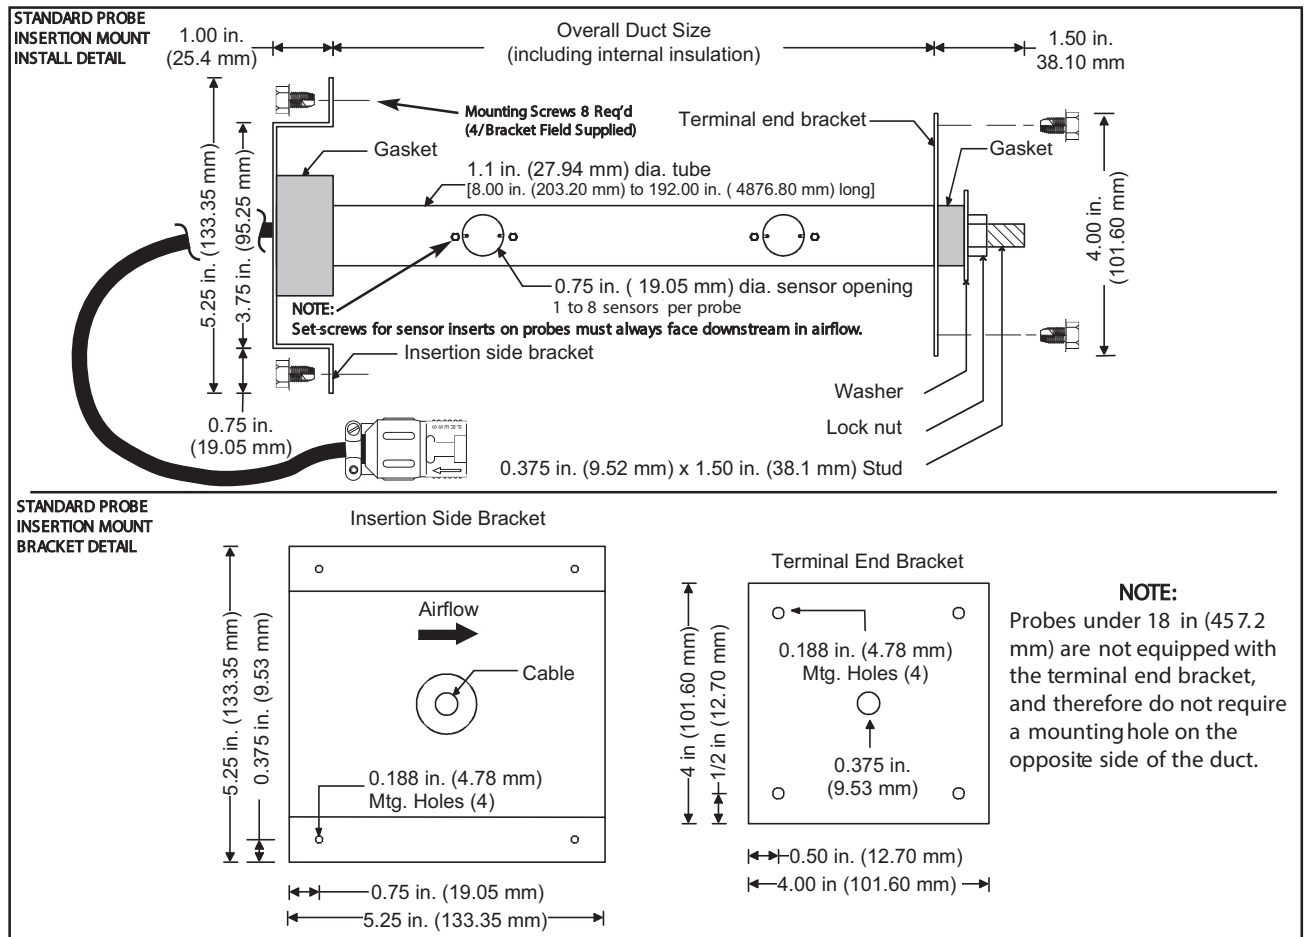
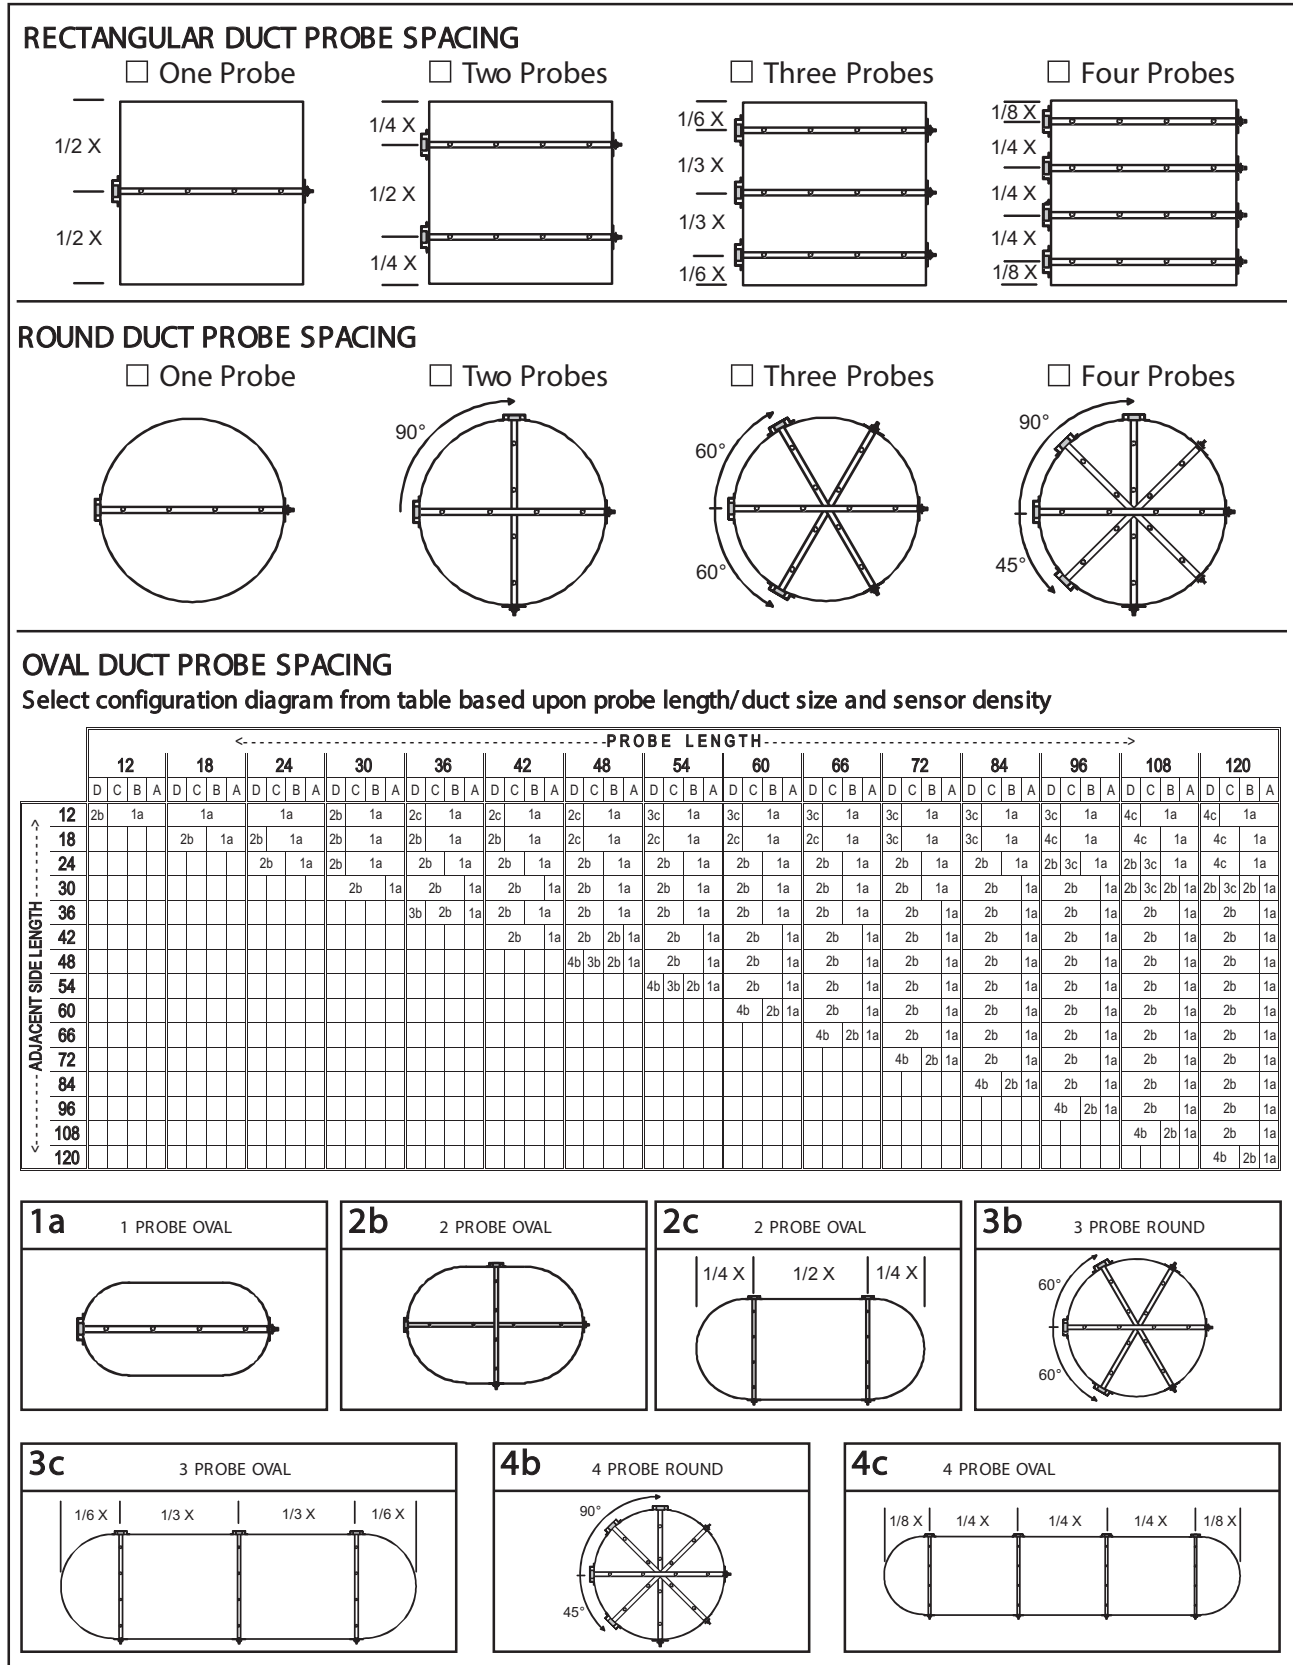

Figure 2. Standard Internal Mount Probe Mechanical Detail
Figure 3. Internal Mount Probe Spacing/Configuration
Ensure that adequate installation/service clearance exists at the installation site to permit installation of the probe into the duct/plenum, and that the cable length for the probes is sufficient to reach the planned transmitter installation. Refer to the mechanical details of Figure 2.
On applications where multiple probes are to be installed at a single measurement location, install probes in accordance with Figure 3 (Internal Mount Probe Spacing/Configuration). In addition, when traverse data is desired (Gold Series GP1 probes only), place the lowest numbered probe at the top of the duct for horizontal mounting. For vertical mounting, place the lowest numbered probe on the left side of duct when viewed from the upstream side of the mounting location, with cables exiting on the higher side to prevent any potential moisture from accumulating on the heated sensors.
Figure 2 provides Standard Internal Mount probe installation details. Probes are installed from inside of the duct or plenum using the included brackets. Internal insulation that may interfere with mounting should be temporarily removed to permit installation. Internal mount probes are manufactured shorter to permit 0.75 in (19 mm) adjustment and allow for installation clearance. Install each probe as follows using the convenient check boxes at each step.
1.  Each probe package is factory labeled for the specific location and duct size for which it is designed. Orders for locations requiring multiple probes at a specific location are typically banded and packaged together. Determine the specific duct location for the probe(s) as indicated on the engineer's plans showing where the airflow measuring station is to be located. Refer to Figure 3 for probe spacing and orientation.
3.  The first dimension of the probe size indicates the length of the probe. The second dimension indicates the specific duct internal mounting inside dimension 'X' (including internal insulation). On ducts with internal insulation that cannot be removed, adjust 'X' to equal the internal mounting inside dimension, minus two times the thickness of the insulation. Refer to Figure 2 and verify that the probe is the correct size for the application duct size. Mark a point on the center of the inside of the duct at 'X'. Draw a line on the inside of the duct at this point that is perpendicular to the edge of the duct. This line will be used to locate the position of the probe mounting brackets. The probe quantity for the measurement site determines the probe installation configuration/orientation as shown in Figure 3.
4.  Using the applicable Rectangular Duct Probe mechanical and spacing details of Figures 2 and 3, mark the location for the cable exit end of each probe bracket at the location line(s) drawn in step 3.
6.  Mark and draw a line around the inside circumference of the duct at the point where the probe brackets are to be installed. The number of probes for this specific measurement site determines the probe installation configuration and orientation as shown in Figure 3. Applications with multiple probes must be staggered 1.5 to 2 in (38.1 to 50.8 mm) from each other as shown in Round Duct Probe Spacing detail of Figure 4 to prevent probes from intersecting at the center of the duct.
7.  Using the Round Duct Probe Spacing detail of Figure 3, locate and mark the individual probe mounting location(s) on the circumference line drawn in step 6.
9.  Mark and draw a line around the inside circumference of the duct at the point where the probes are to be installed. For oval duct applications, orientation is as shown in the Oval Duct Probe Spacing table and detail application illustrations of Figure 3. Configuration '2b', '3b' and '4b' probes must be staggered 1.5 to 2 in (38.1 to 50.8 mm) from each other in order to prevent probes from intersecting at the center of the duct.
10.  Using the Round Duct Probe Spacing detail of Figure 3, locate and mark the individual probe installation location(s) for the cable exit end of each probe bracket on the circumference line drawn in step 6.
13.  Loosen the Non-Cable End Adjustment Screws on both sides of the probe as shown in the detail of Figure 2 for Standard Probes to permit pivoting the probe and bracket.
If the airflow direction labels are not visible on the bracket and/or probe, orient the probe so that the sensor SET SCREWS (two per sensor insert) face the DOWNSTREAM side of the probe as shown in Figure 2. (There are no setscrews on the upstream side of the sensor inserts).
19.  Carefully center the probe in the duct opening, and then tighten the probe Adjustment Screws on both sides of the cable end bracket, and then on both sides of the non-cable end bracket as shown in Figure 2 detail. (There are 4 Adjustment Screws total).